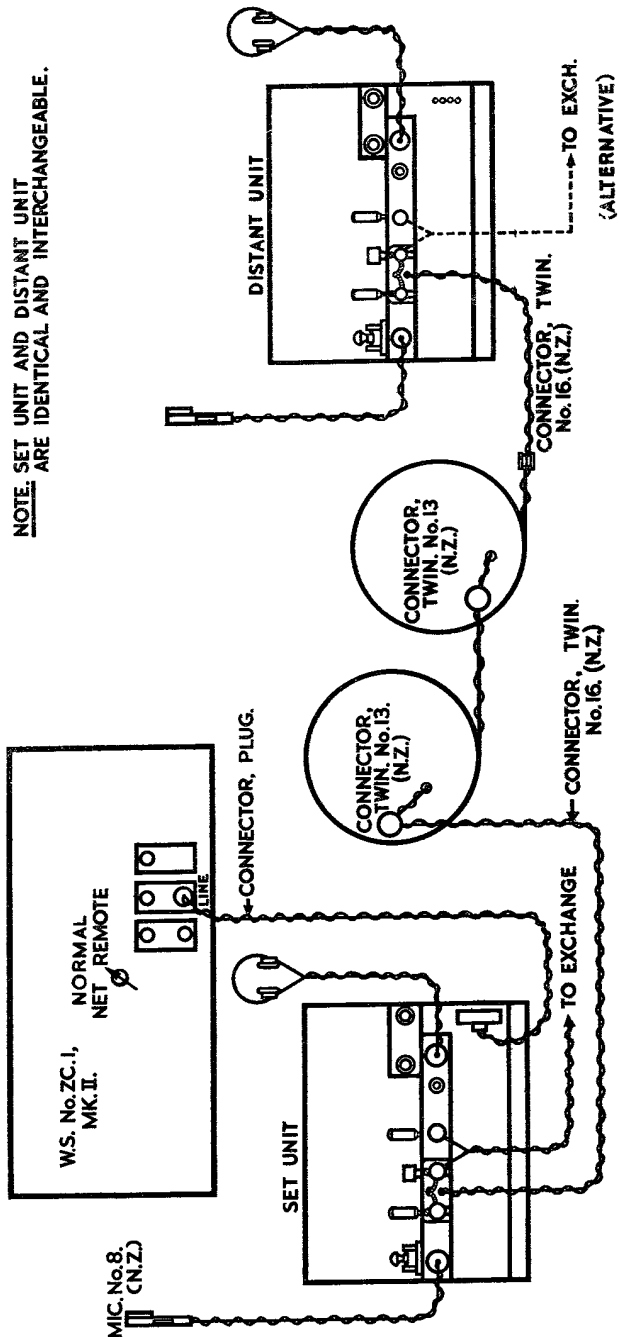

FIG. 7.—W.S. No. ZC-1, MK. II., REMOTE CONTROL UNITS. DIAGRAM OF CONNECTIONS.
- .01 Plate 5 is a general view of the unit, Fig. 11 is a schematic diagram of the unit, while Fig. 7 shows the unit and its accessories, connected to wireless set and exchange lines.